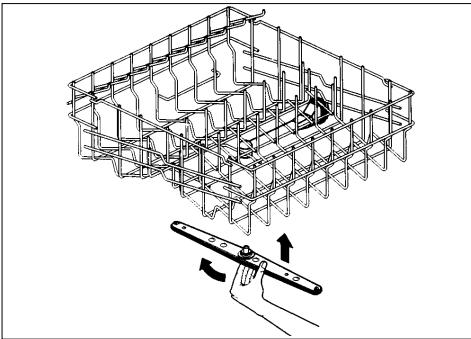

fig. 10
- Take out the upper spray arm by pulling it – with a turning movement – vertically downwards (see fig. 10).